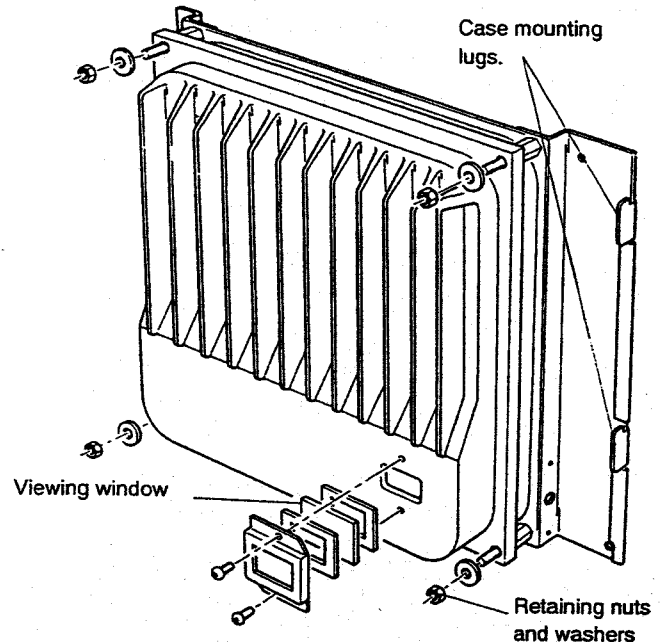

Fig. 5. Mounting lugs and retaining nuts.
7. Fit the outer case by locating the slots in the outer case rear strip on to the four mounting lugs on the wall brackets. (Fig 5).
2. Remove the control knob by pulling forward, then remove the case by easing upwards and forwards until it is clear of its retaining lugs. (Fig 5).
3. Remove the heat exchanger front by removing the four retaining nuts and washers. (Fig 5).
Remove the four retaining nuts and washers securing the front heat exchanger section. On re-assembly ensure that the sealing rope is renewed if it is in any way damaged. (Fig 5).
Remove the two viewing glass retaining screws and remove the glass complete with the clamping plate and sealing gaskets. (Fig 5). On re-assembly ensure that the sealing gaskets are renewed.